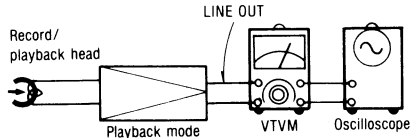

Fig. 2
• The serial number plate of this product is attached to the bottom cover. (Shown in fig. 2.).
1. Make connections as shown in fig. 2.
1. Test equipment connection is shown in fig. 2.